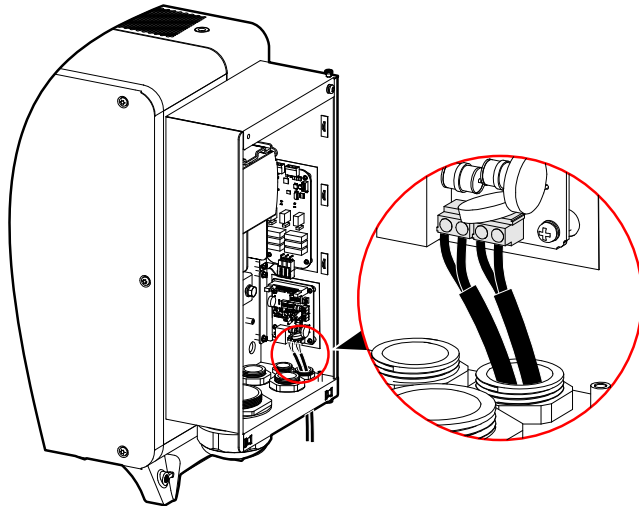

Figure3-45 RS485 connection
- Step 1 Plug RS485 communication wire into the RS485 port on the communication board, as shown in Figure3-45. Connect the other end of the RS485 communication wire to the monitoring platform.